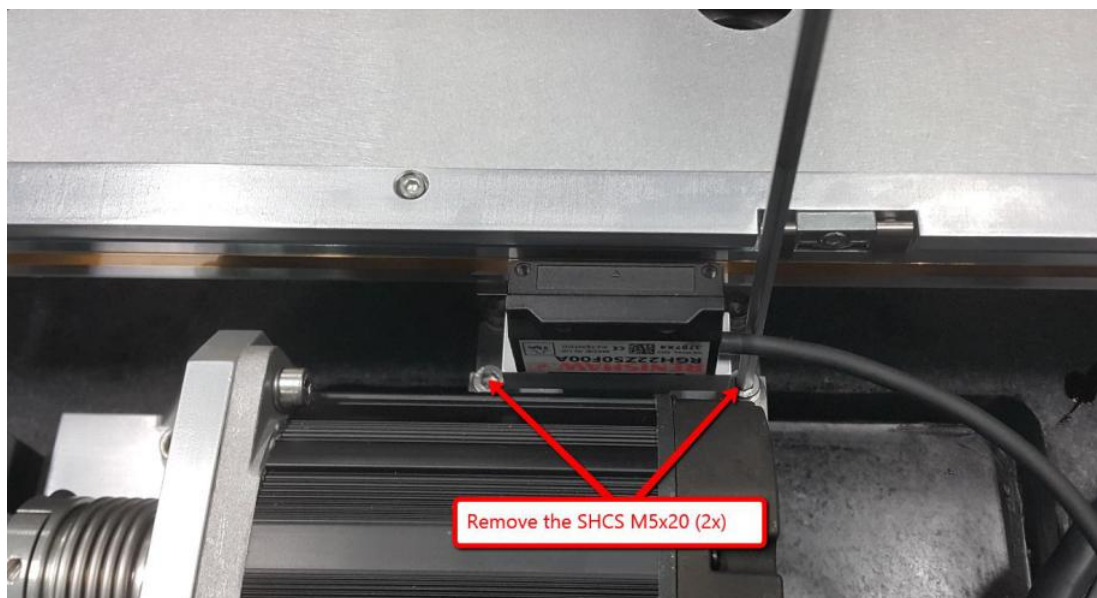

Figure 4 Y-Axis Encoder
5. Gently remove Y-Axis encoder as shown in Figure 4 and allocate at visible position.